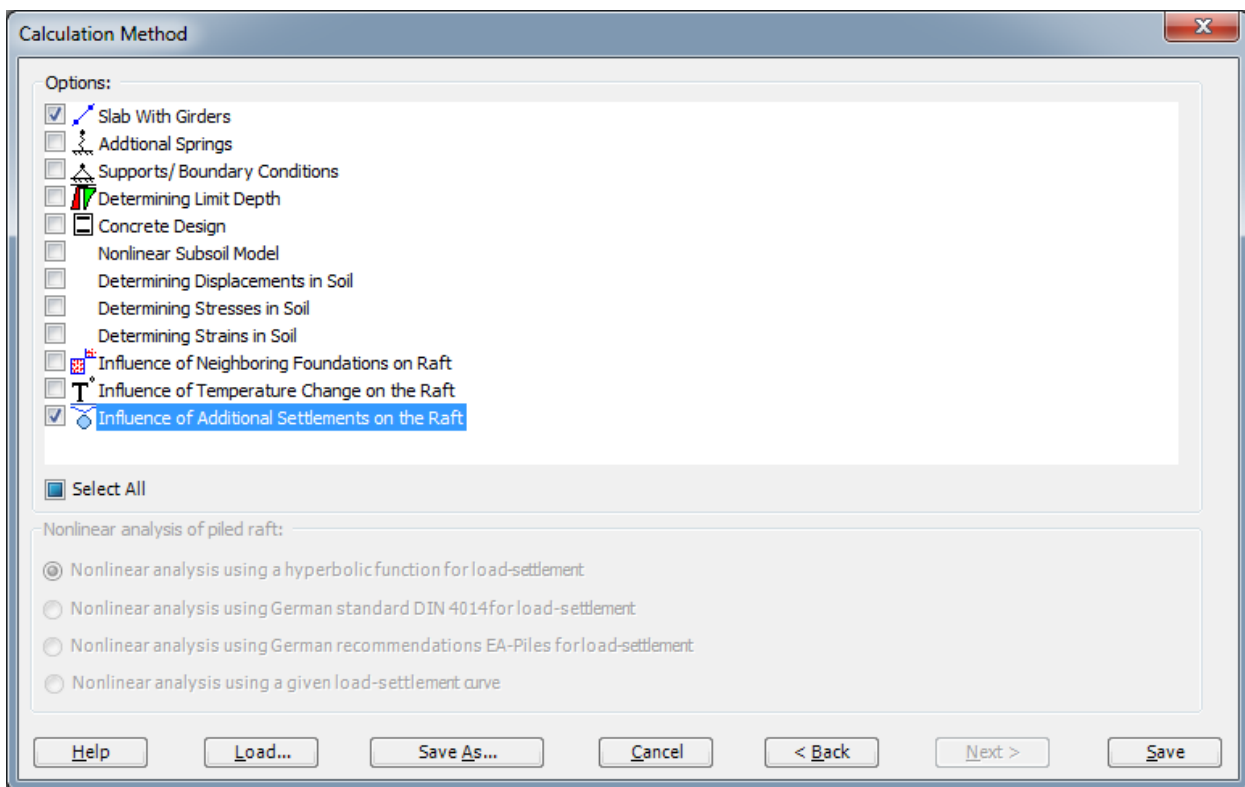

Figure 13.37 "Options" list
- The last form of the wizard assistant contains the "Options" list, Figure 13.37. In this list, check the option "Influence of additional settlements on raft", then click the "Save" button